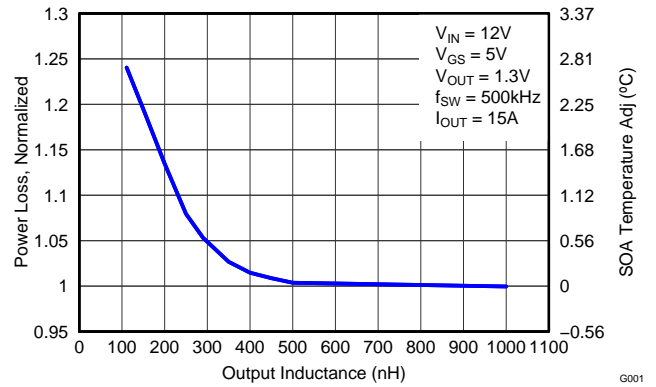

Figure 8. Normalized Power Loss vs. Output Inductance
- Normalized Power Loss for output inductor \approx 1.13 (Figure 8)
- SOA adjustment for output inductor \approx 1.5°C (Figure 8)